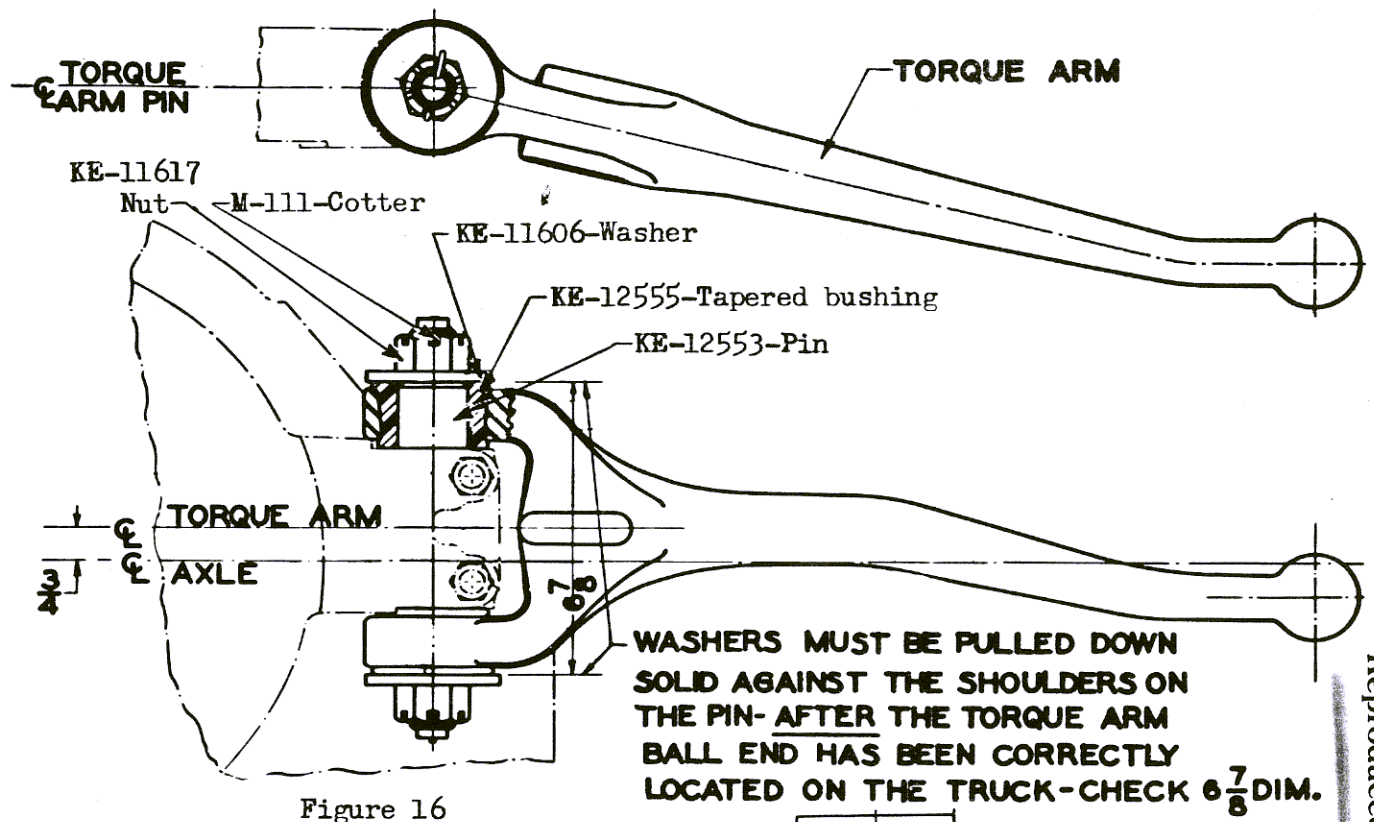

Figure 16
TORQUE ARM ASSEMBLY. The main part of the torque arm assembly, shown in Figure 16 is the torque arm which takes the torque reaction of the gears. One end of torque arm is attached to gear housing by two tapered rubber bushings. Catalog No. KE-12555, which absorb shocks, vibrations and all movement by the flexing of the rubber. Torque arms are furnished in several lengths and types of bends to suit the location of truck end sill. All other parts of torque arm assemblies are interchangeable.
2. Remove the nut and washer from top of torque arm pin at gear unit and lift out the tapered rubber bushing. See Figure 16.
In the re-assembly it is important that nuts on torque arm pin are not drawn up tight until after the ball end of torque arm is securely fastened at truck end sill. In the final tightening, the washers must be drawn down solid against the shoulders on torque arm pin and dimension of 6 7/8" between washers must be maintained. See Figure 16.